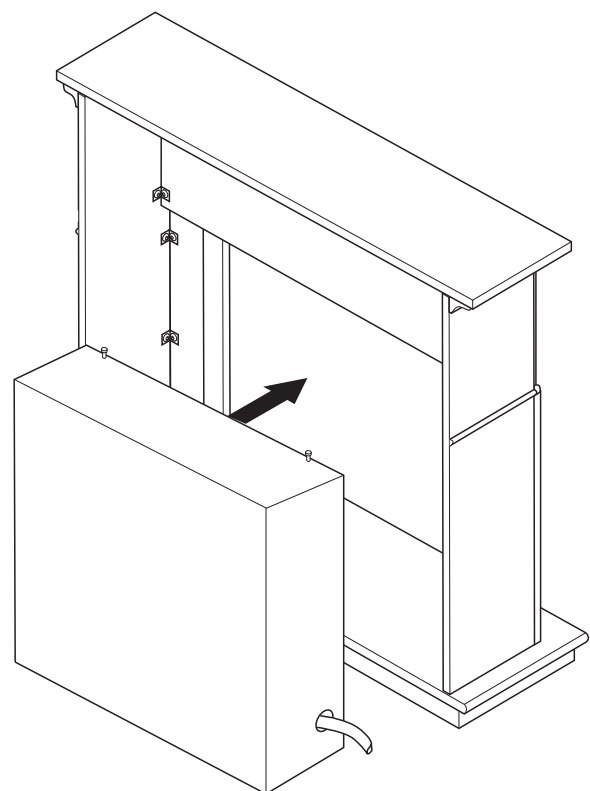

Figure 5 - Installing Fireplace
5. Position fireplace inside mantel (see Figure 5). Carefully position gas lines. **IMPORTANT:** Use caution when positioning fireplace on base. Base may scratch easily.